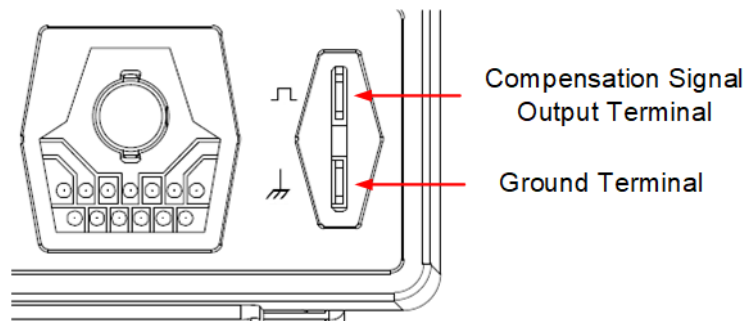

Figure 5.6 Using the Compensation Signal
2. Connect the ground alligator clip of the probe to the "Ground Terminal" as shown in *Figure 5.6*.
3. Use the probe to connect the input terminal of CH1 and the "Compensation Signal Output Terminal" of the probe, as shown in *Figure 5.6*.